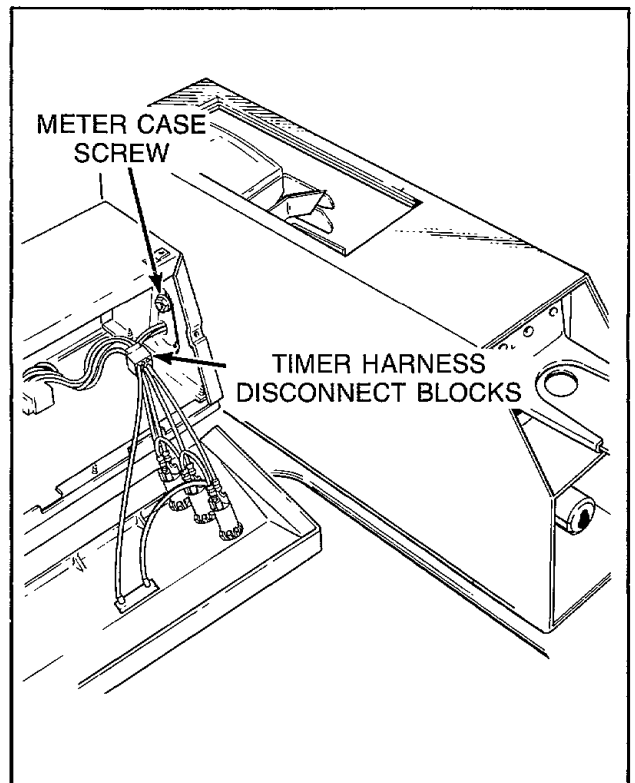

Figure 7
- d. Disconnect timer harness from control hood harness at disconnect blocks, *Figure 7*.
- f. Remove cap screw, lockwashers and nut holding meter case to end of control hood, *Figure 7*.